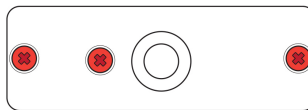
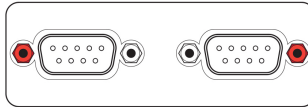

Figure 4: Attachment points at the back side of the casing
Figure 5: Attachment points of the D-Sub connectors at the front side of the casing
8. Screw the front and back side (Figure 4 and Figure 5).